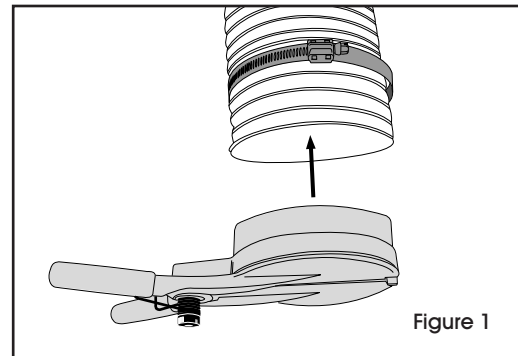

Figure 1
2. Remove clamp from inside of valve, then slide it over flex tubing. Insert the valve flange into bottom of flex tubing (be sure tubing covers entire flange). Turn yellow handles to correct position for operator, slide clamp down around tubing covering flange and tighten with screwdriver. (See Figure 1)